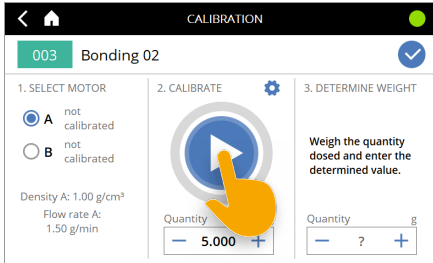

Fig. 44
- ▶ Position the measuring beaker under the end piece (dosing needle) or the calibration adapter as appropriate and press the **START/STOP-button** (Fig. 44). The calibration starts, and the set quantity is conveyed.